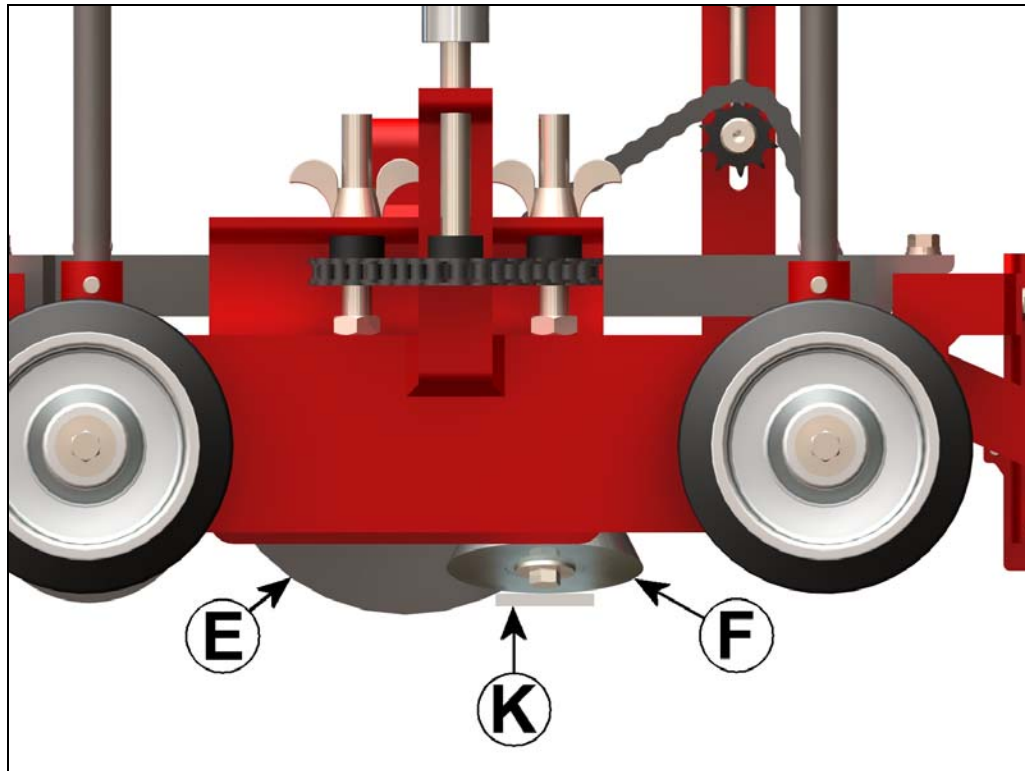

Figure 2 Discharge Blade Setup
5. Lay a straight edge (K) underneath the compression blades (F) with the rear edge touching the leading edge of the discharge blade (E) as shown in Figure 2. Slide the discharge blade carriage forward until the rear edge of the straight edge (K) is slightly behind the center of the compression blades. Minor deviations from the setup shown in Figure 2 may be necessary depending on seal size and field conditions.